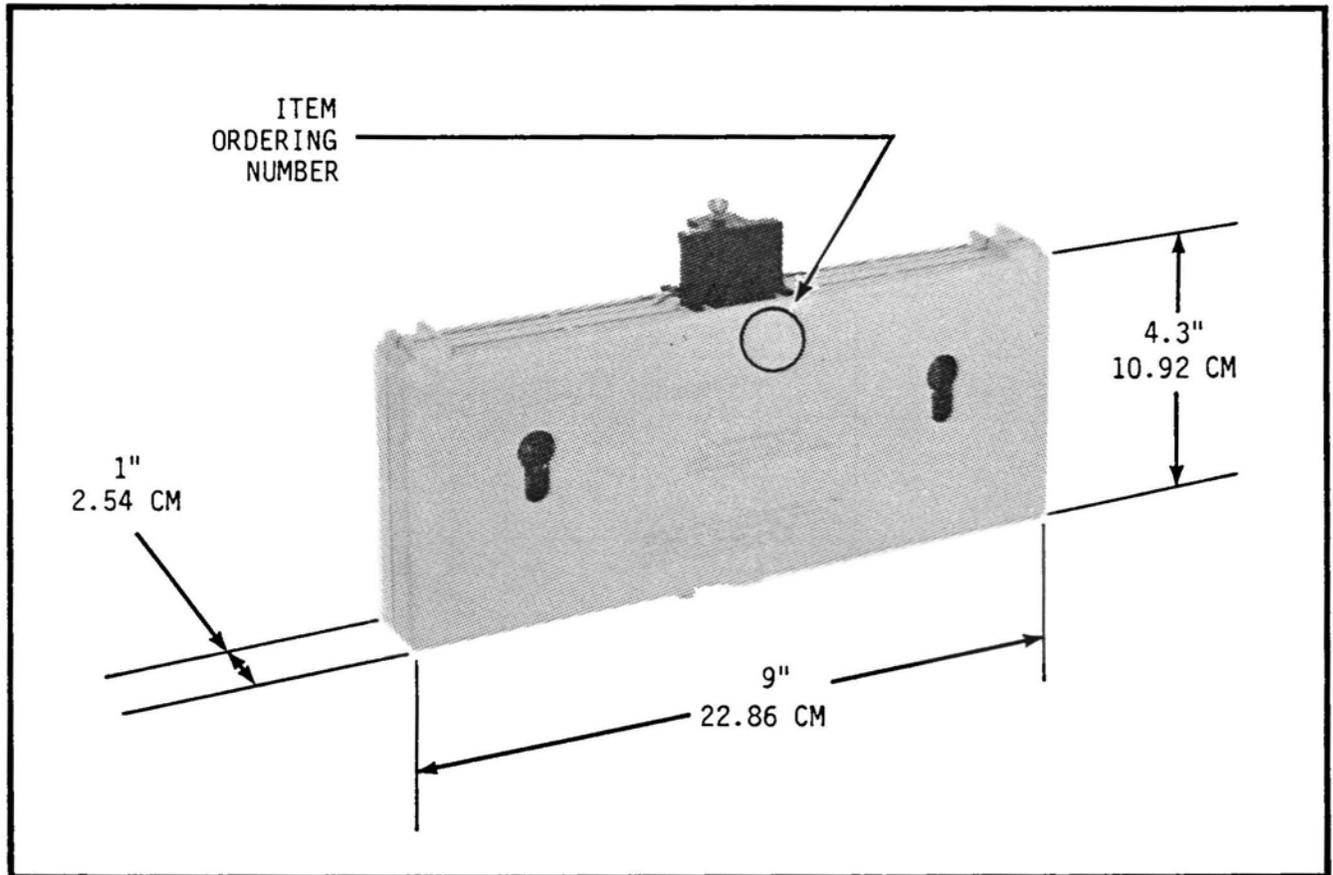

Figure 1 M-164-71 Converter
1.01 This technical practice applies to TELTONE® M-164-71* CONVERT-A-PAK^{T.M.} tone-to-pulse converters (see Figure 1). Descriptions, ordering information, installation procedures, and troubleshooting procedures are provided.
3.03 The M-164-71 is packaged in a thermal plastic housing as shown in figure 1. The housing meets UL94 V-0 requirements. The M-164-71 includes all the interface circuitry, logic elements, and DTMF receiver functions to convert one linefinder or selector. The unit operates on the same -48 volt battery supply as other telephone equipment.